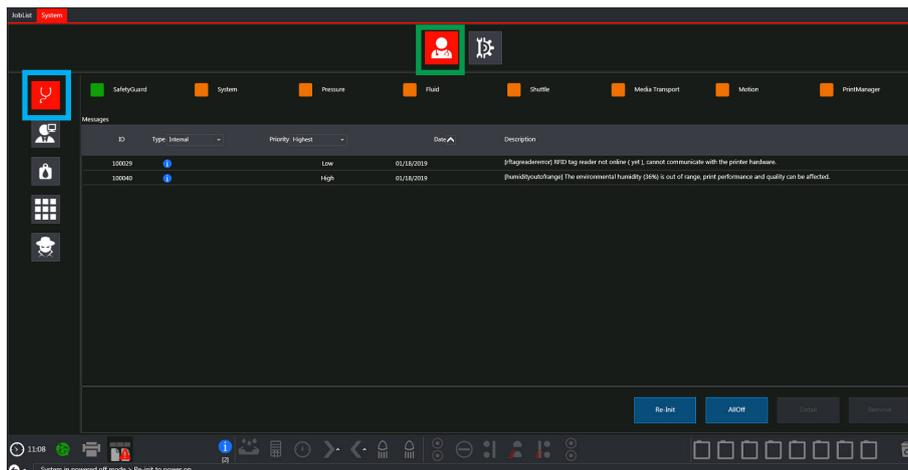

Fig.6-1: Machine Status Window - Engine Status Messages
- Click on the icon (outlined in green in Fig.6.1) to access the environment for managing the status of the machine.
The engine status dashboard (outlined in blue in Fig.6-1) provides the status of the Jeti Tauro